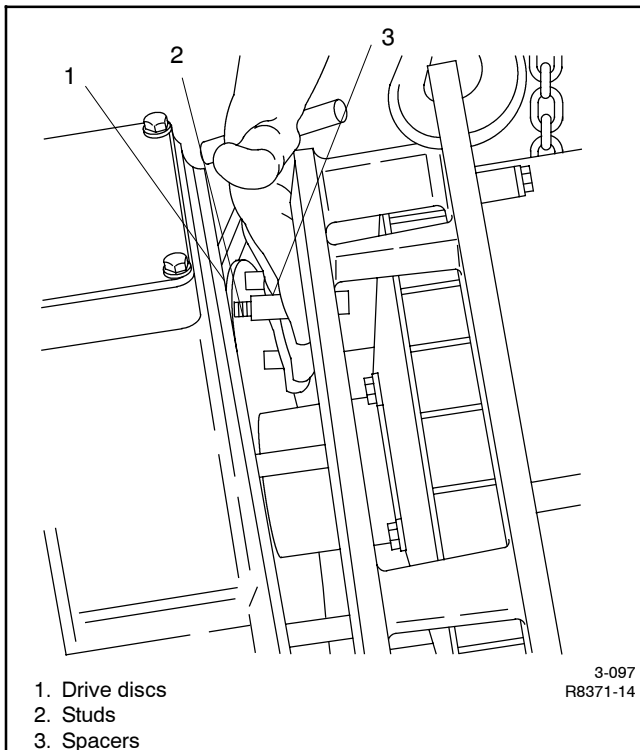

Figure 4-22 Installing Spacers
22. Place hoist hooks into the end bracket and adapter eye. Raise the alternator assembly and align the studs with the drive discs by turning the flywheel. Move the alternator as necessary to work the drive discs over studs. When the drive discs are about 25 mm (1 in.) over the studs, install spacers if so equipped. See Figure 4-22.